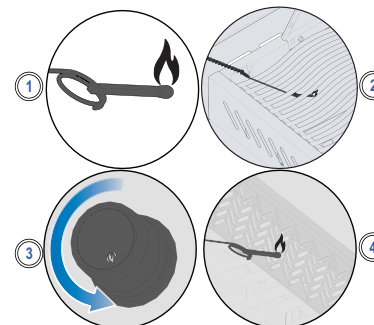

Fig. 4
3. While turning the corresponding burner knob to high. (Fig. 4)